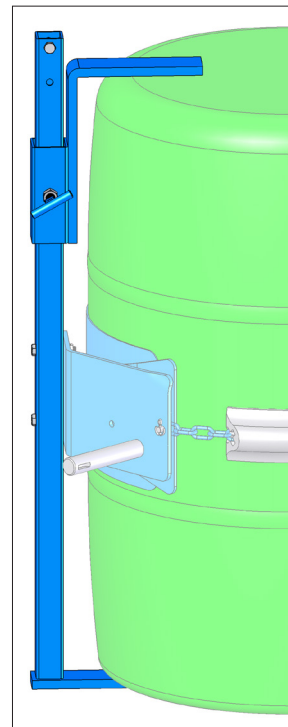

Figure 2.1
- 1. Bracket Assembly Kit # 4556-P** is **required** to handle a RIMLESS plastic drum (figure 2.1), and is also recommended for a fiber drum. The Bracket adjusts for a 31" to 39" (79 to 99 cm) tall drum. You can also handle a rimmed drum with the Bracket installed.